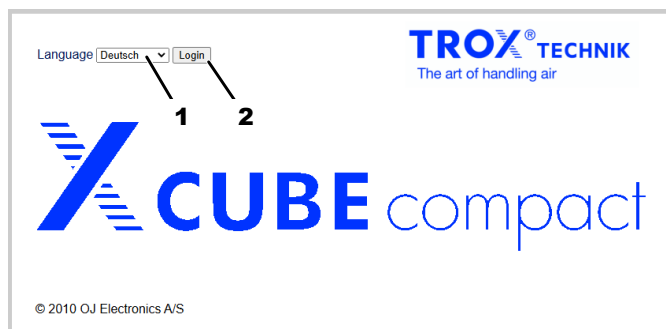

Fig. 20: Log in to the web server
- ▶ Select a language ( Fig. 20 /1).
- ▶ Click on 'Login' ( Fig. 20 /2).